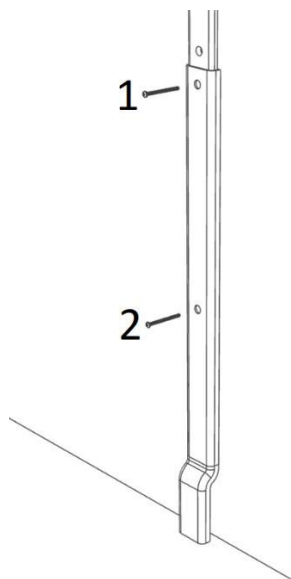

Figure 215: ***Insert Flip Toggle Screws into the Remaining Holes on the Lower Post***
19. Insert one of the flip toggle screws into the wall through the aligned top hole of the lower post and the bottom hole of the post coupler (Position 1 in Figure 215).
21. Insert flip toggle screws into the remaining holes on the lower post and tighten. (Position 2 in Figure 215).